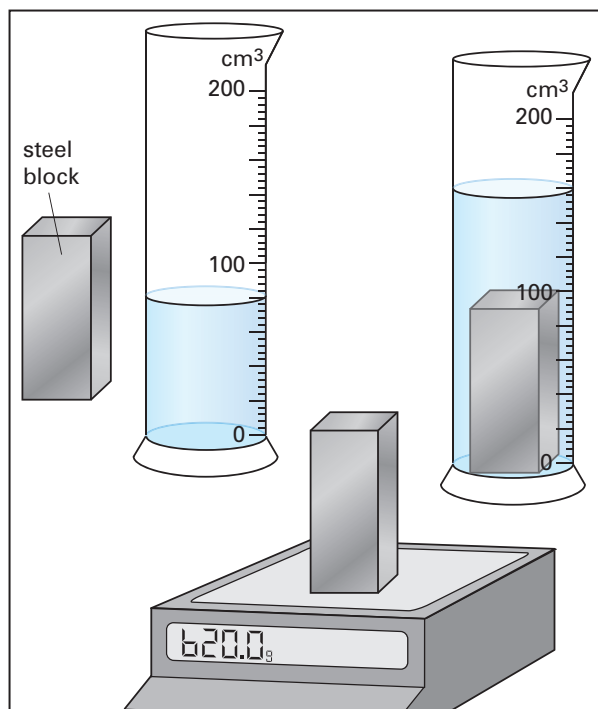

Figure 1.11 For Question 7.
- 7 A student measures the density of a piece of steel. She uses the method of displacement to find its volume. Figure 1.11 shows her measurements. Calculate the volume of the steel and its density.